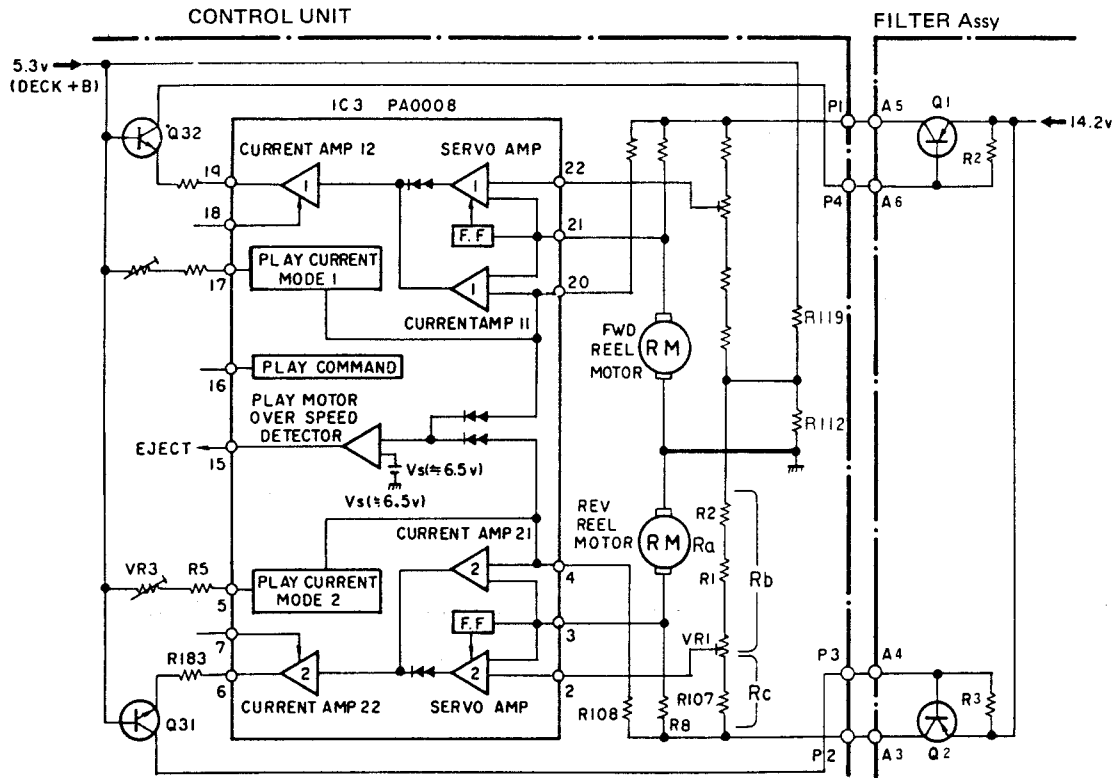

Fig. 39
9.16 PLAY MODE REEL MOTOR "OVER SPEED" DETECTION (Fig. 39)